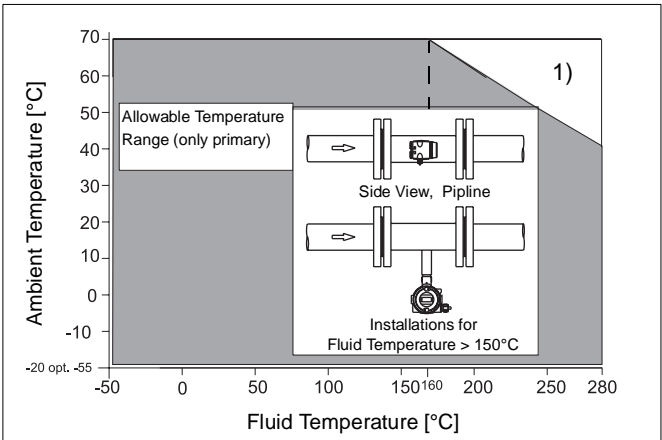

Fig. 5 Ambient – Fluid Temperature Relationship
The interrelationship between the fluid and ambient temperatures must be considered (Fig. 5).
1) Cables suitable for T=110°C can be used for the supply power terminals 31, 32 and the contact output terminals 41, 42 without any reduction in the temperature range specifications. Cables suitable only for temperatures T=80°C reduce the temperature range of the flowmeter as shown in Fig. 5.